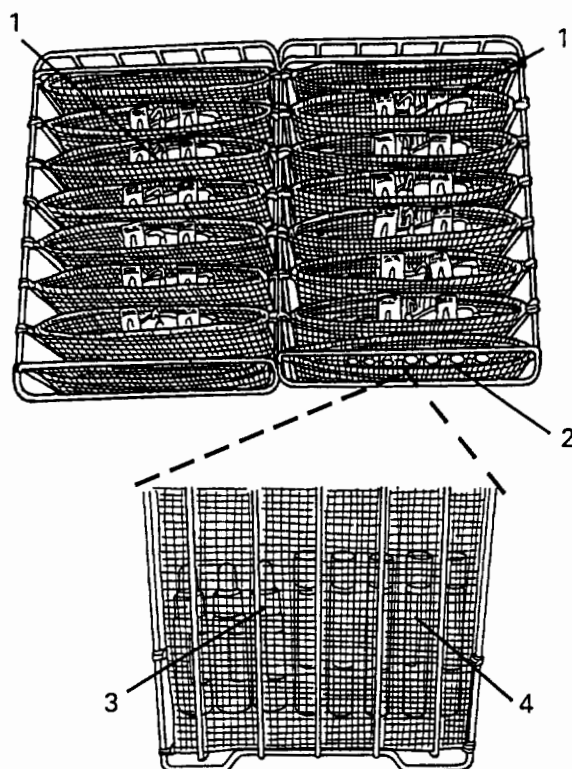

Figure 3-19 — Packing Sequence
332. **12 Unit of bloods.** Starting one pocket from the hinge, pack each pocket with one unit of blood (1) (Fig 3-19).
333. Pack the vials (3) and plasma bottles (4) in the end pockets (2) (Fig 3-19).